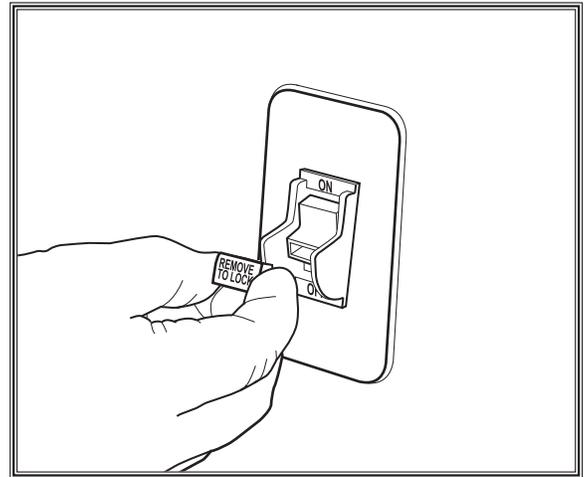

Figure 16. Removing switch disabling key from toggle switch.
7. Remove switch disabling key, as shown in **Figure 16**.